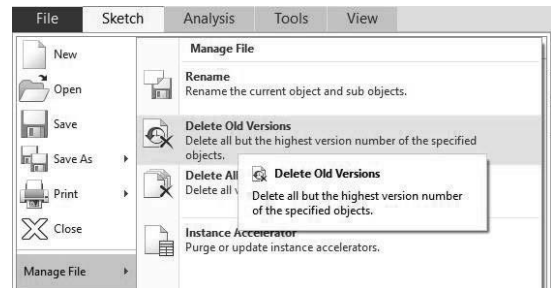

Figure 3-66 DeleteOldVersions
Step 33: **File>Manage File>Delete Old Versions.** See Figure 3-66.